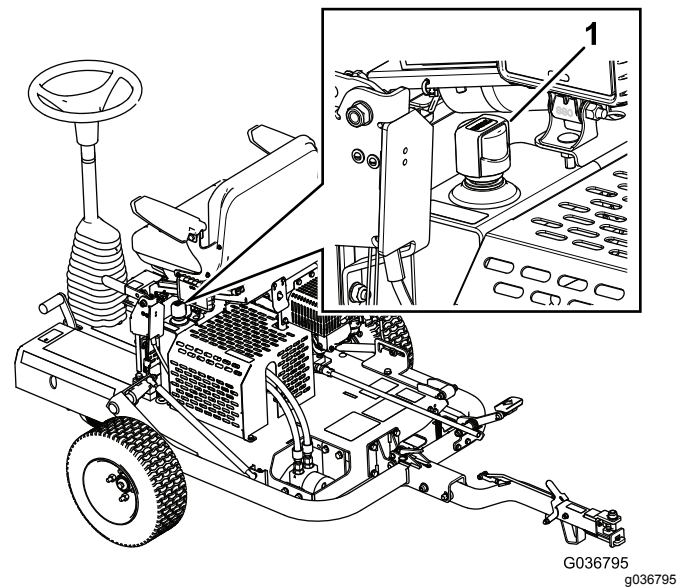

Figure 20
3. Remove the hydraulic-tank cap and check the fluid level on the dipstick (Figure 20).